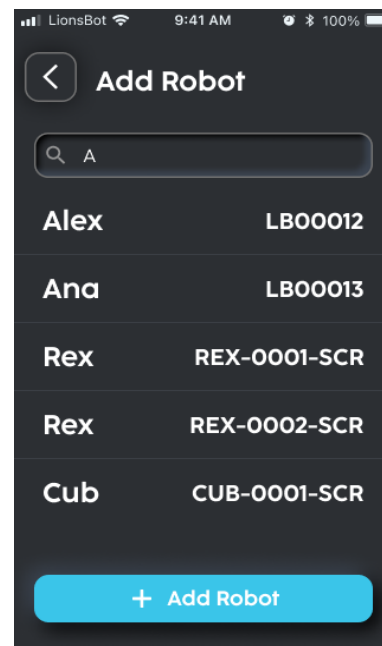
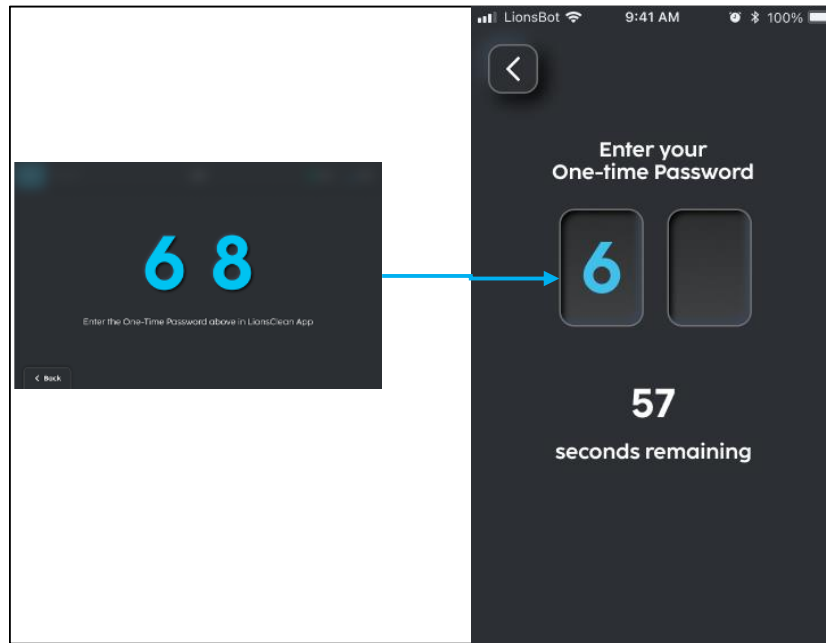

FIGURE 7-14
FIGURE 7-15
3. The app will then prompt the user for a one-time password to be entered within 1 minute (Fig. 7-14). This is a 2-digit password that will be displayed on the eyes or touchscreen of the robot. Input this on the app (Fig. 7-15).